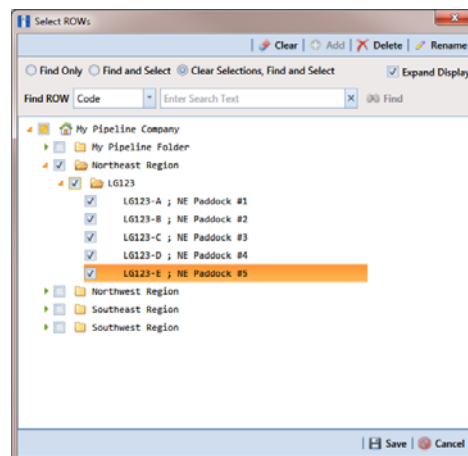

Figure 7-56. Select ROWs
- 1 Click the **Select ROWs** button  to open the *Select ROWs* window (Figure 7-56). Select the pipeline segment(s) with the facilities you want to work with, then click  **Save** to close the window.
- 1 Click the **Select ROWs** button  to open the *Select ROWs* window (Figure 7-56, page 272). Select the pipeline segment(s) with the facilities you want to work with, then click  **Save** to close the window.